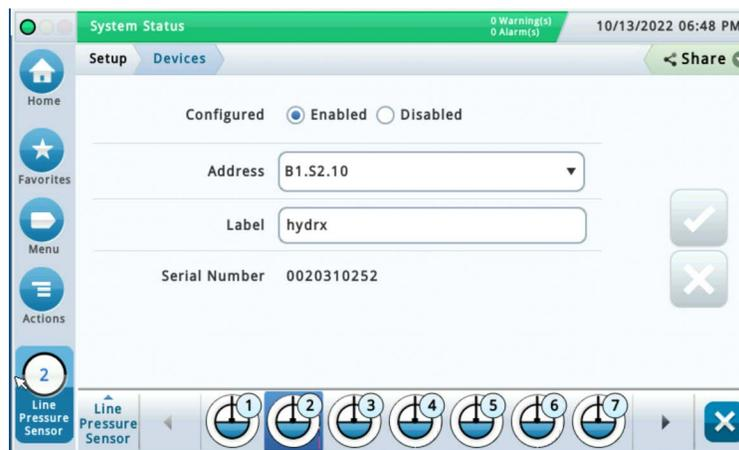

Figure 3. Example Pressure Sensor Setup Screen
1. Touch **Menu>Setup>Devices** and touch the Line Pressure Sensor button (see Item 2, Figure 1) to open the Pressure Sensor setup screen (see Figure 3).